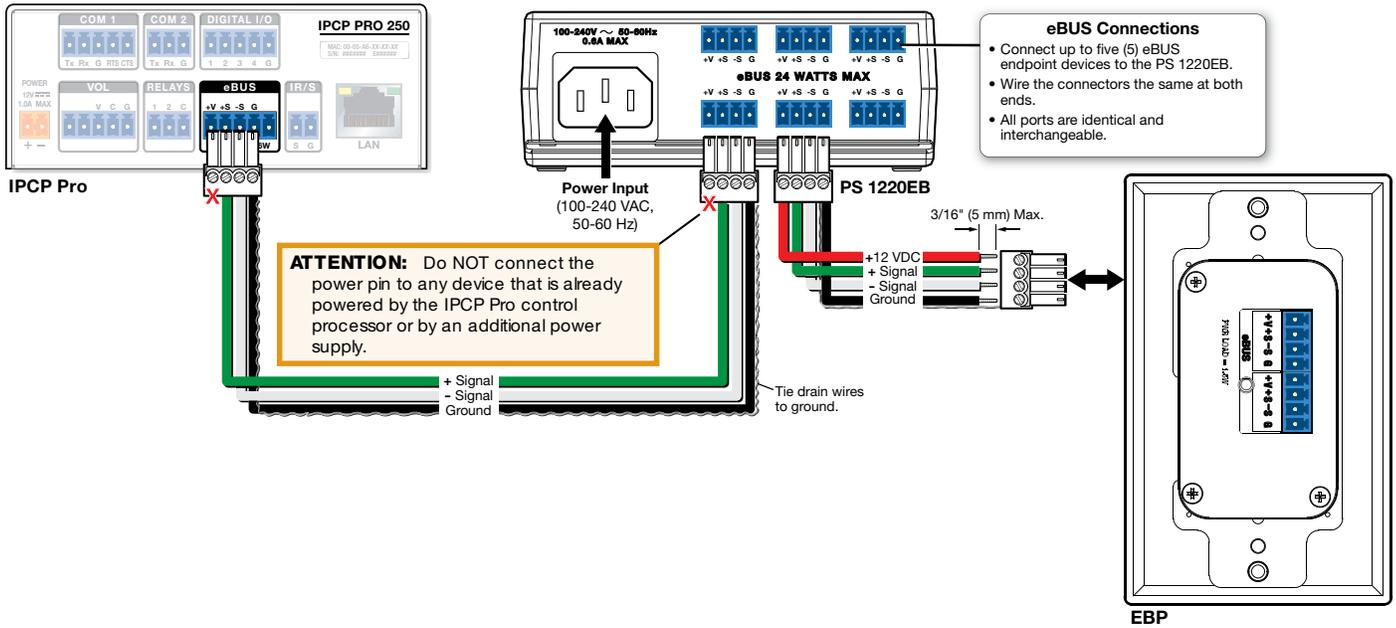

Figure 11. Cabling an eBUS System with an PS 1220EB Power Supply and Distribution Hub
- Power is provided by the IPCP Pro. If additional power is required, use a PS 1220EB power supply and distribution hub, or an Extron PS series desktop power supply. If more than one power source is used in a system, make sure that the devices powered by the first source are isolated from the devices powered by the second source by disconnecting the +V pin appropriately (see figure 11 on the following page).
NOTE: Although the rear panel for the EBP 103 D is different from the rear panel shown in figures 11 and 12, power and eBUS cables are connected in exactly the same way.